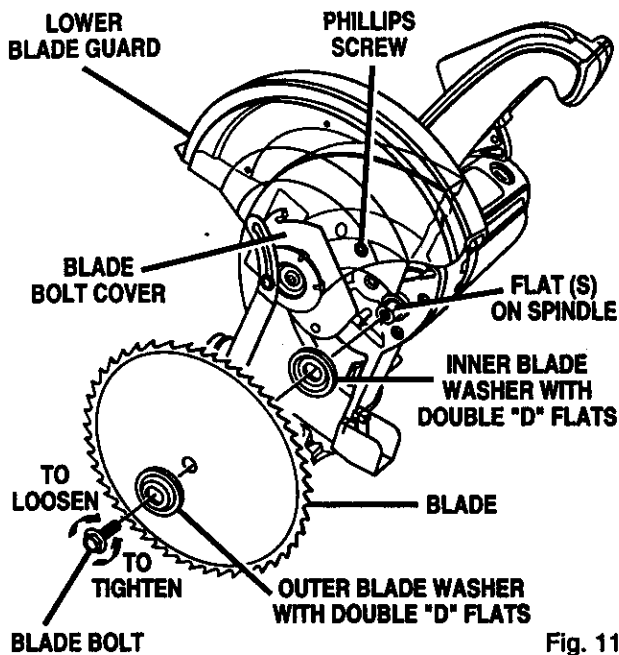

Fig. 11
- Fit saw blade inside lower blade guard and onto spindle. The blade teeth point downward at the front of saw as shown in figure 11.
- Retighten phillips screw securing blade bolt cover. Tighten screw securely. *See Figure 11.*